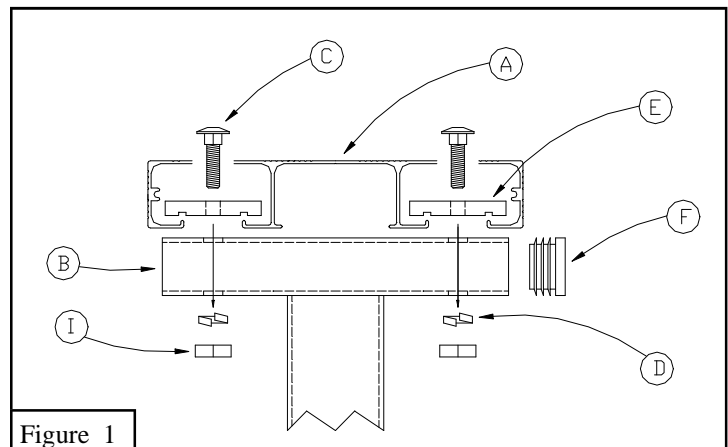

Figure 1
1. Attach the *Leg Assemblies (B)* to the *7 1/2' Aluminum Seat (A)* with *3/8" x 3" Carriage Bolts (C)*, *3/8" Lock Washers (D)*, *3/8 Hex Nuts (I)* and *Bench Clamps (E)*. *Leg Assemblies (B)* should be placed 12" from each end. See Figures 1 and 2.
2. Insert the *Plastic Tube Plugs (F)* into *Leg Assemblies (B)*. See Figure 1.
1. Attach the *Leg Assemblies (B)* to the 15' *Aluminum Seat (A)* with $3/8'' \times 3''$ *Carriage Bolts (C)*, $3/8''$ *Lock Washers (D)*, $3/8''$ *Hex Nuts (I)* and *Bench Clamps (E)*. Place the first *Leg Assembly (B)* in the center of the 15' *Aluminum Seat (A)*. The remaining *Leg Assemblies (B)* should be placed 18'' from each end. See Figures 1 and 3.
1. Attach the *Leg Assemblies (B)* to the 21' *Aluminum Seat (A)* with $3/8'' \times 3''$ *Carriage Bolts (C)*, $3/8''$ *Lock Washers (D)*, $3/8''$ *Hex Nuts (I)* and *Bench Clamps (E)*. Place one *Leg Assembly (B)* 18'' from each end. Position the remaining two *Leg Assemblies (B)* 72'' from outside *Leg Assembly (B)* as shown. See Figures 1 and 4.